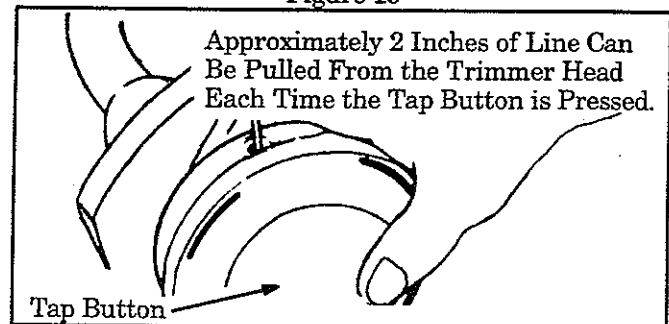

Figure 20
- i. Obtain the correct line length (4-6 inches) by pressing the tap button (Figure 20) and pulling on the line again.
NOTE: Each time the tap button is pressed, approximately 2 inches of line can be pulled from the trimmer head. Figure 20.